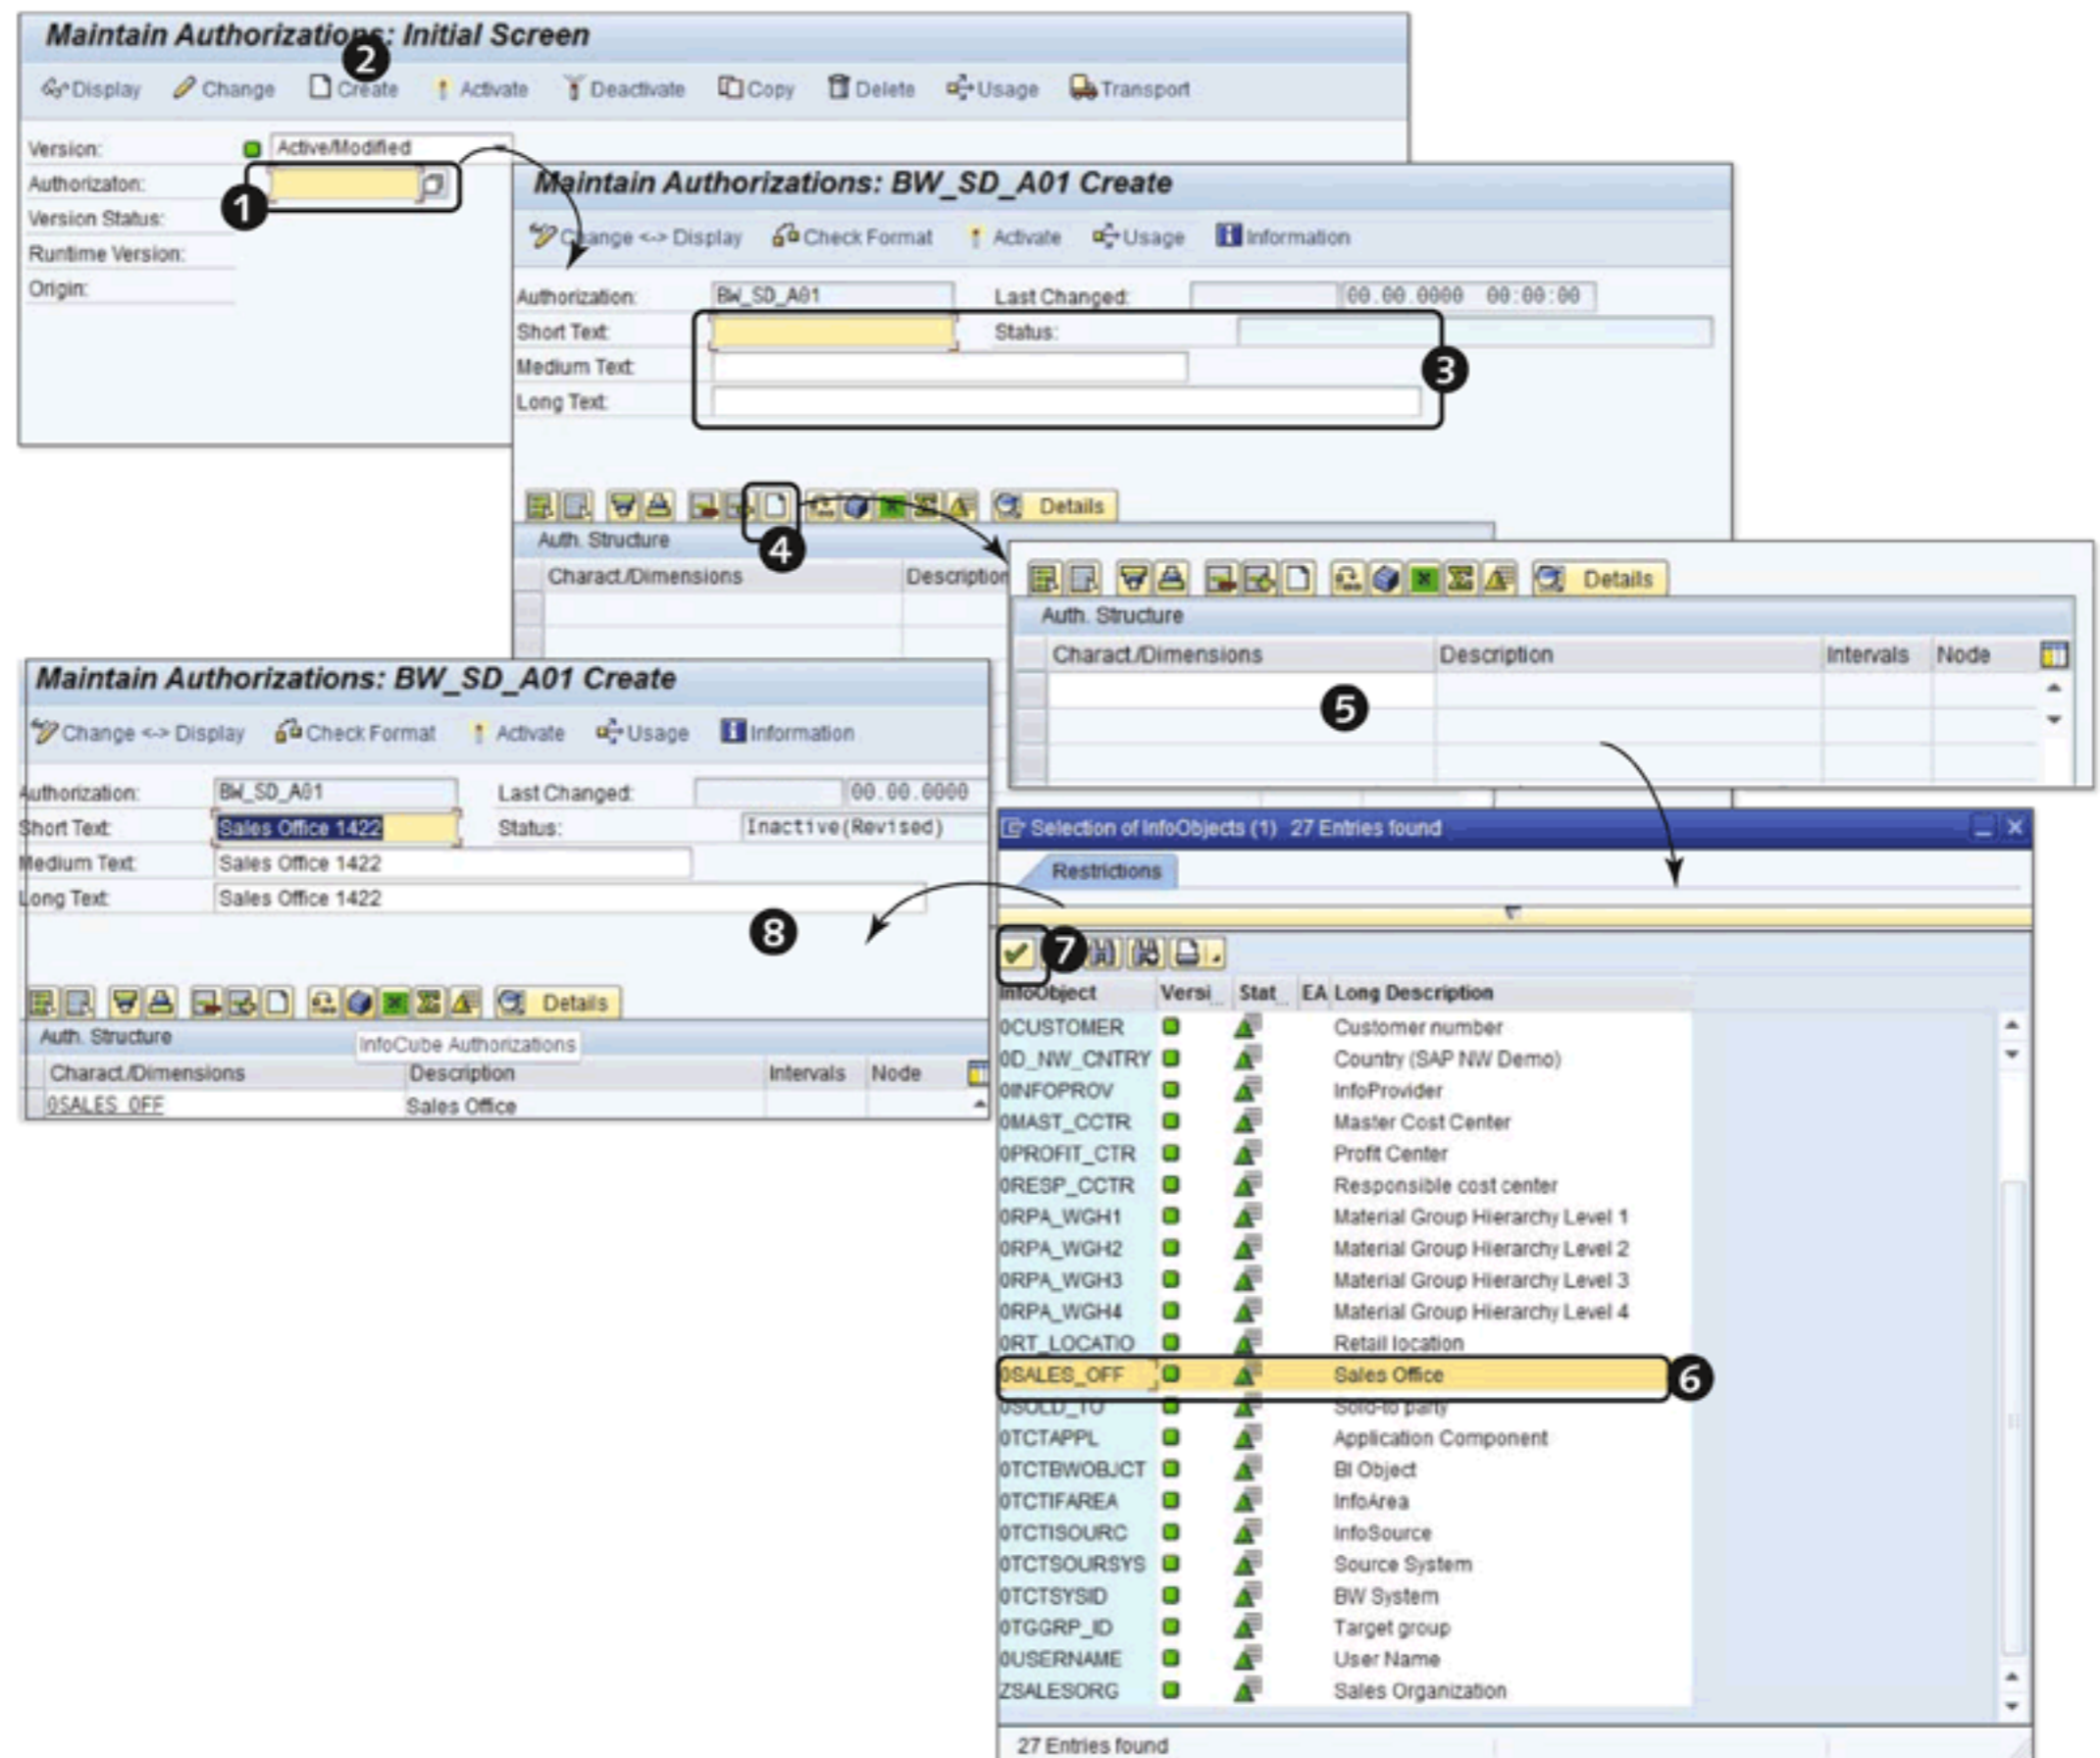

Figure 14.43 Create Analysis Authorization Object
The AUTHORIZATION tab has four buttons for carrying out authorization-related tasks: IND. MAINT (4), MASS MAINTENANCE (5), GENERATION (6), and TRANSPORT (7). Click on the IND. MAINT. button, and the MAINTAIN AUTHORIZATIONS: INITIAL screen appears (Figure 14.43).
In the AUTHORIZATION field, enter "BW_SD_A01" (1 of Figure 14.43), and click on the CREATE button (2). The next screen is MAINTAIN AUTHORIZATION: BW_SD_A01 CREATE. The screen has three fields for the authorization object's short, medium, and long descriptions (3). Enter the following: